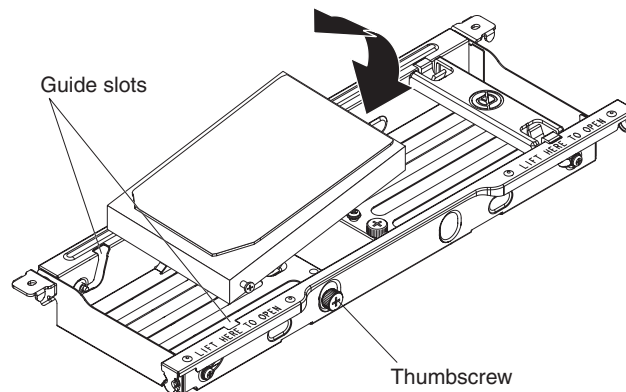

Figure 38. Installing a drive in bay 5
2. Position the hard disk drive so that the shoulder screws are aligned with the guide slots in the hard disk drive bracket and slide the front of the drive into the slots (see Figure 38).